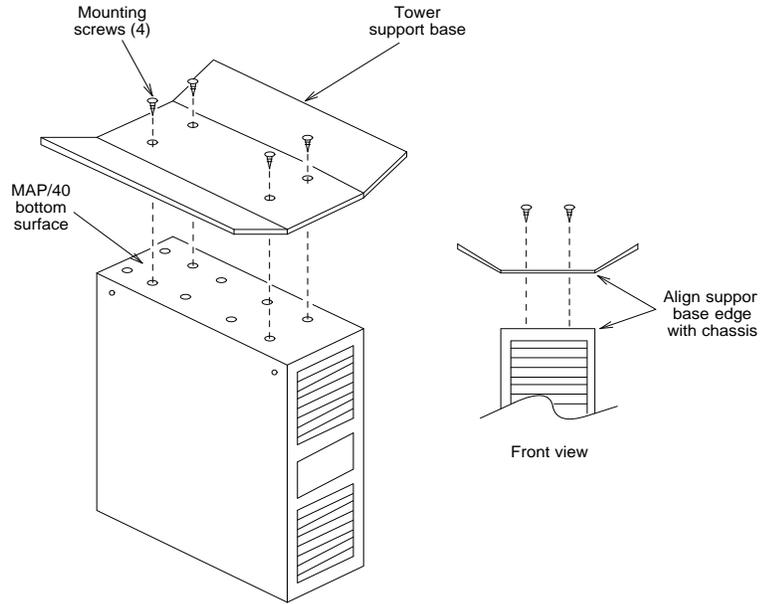

Figure 2-6. Attaching the Support Base
7. Ensure that the base is centered over the length and width of the chassis (Figure 2-6).